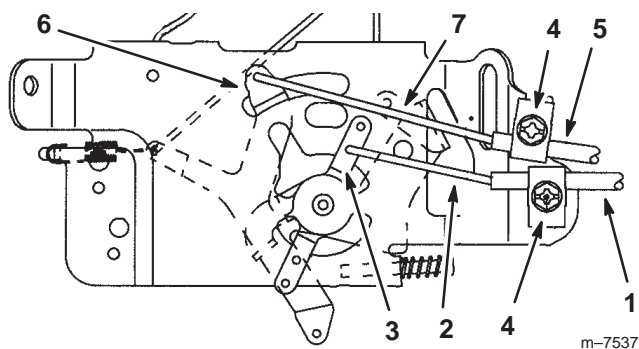

Figure 9
1. Hook the throttle cable inner wire into the hole of the speed control lever (Fig. 9).
2. Move the throttle control lever to the **Fast** position (Fig. 9).
3. Loosen the throttle cable clamp screw (Fig. 9).
4. Pull the throttle cable slightly to remove any slack in the inner wire (Fig. 9).
5. Tighten the cable clamp screw to lock the adjustment in place (Fig. 9).
1. Move the choke control to the **Open** position (Fig. 9).
2. Hook the choke cable inner wire into the hole of the choke control lever (Fig. 9).
3. Loosen the choke cable clamp screw (Fig. 9).
4. Pull the choke cable slightly to remove any slack in the inner wire (Fig. 9).